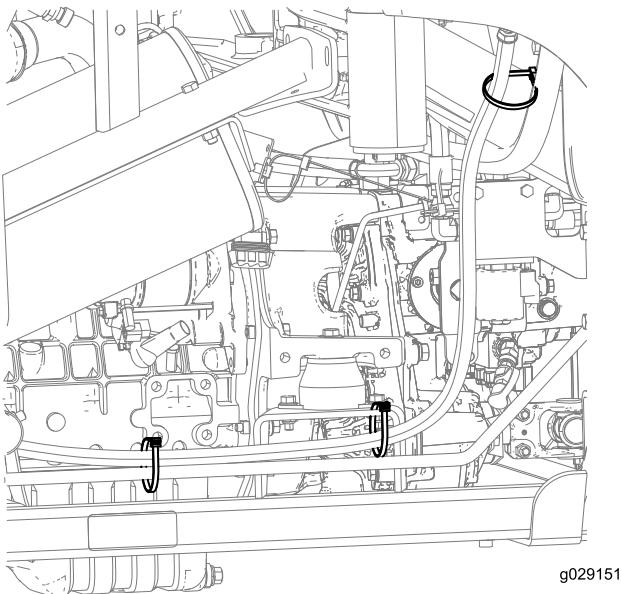

Figure 33
2. Use the 3 cable ties to secure the components as shown Figure 33.